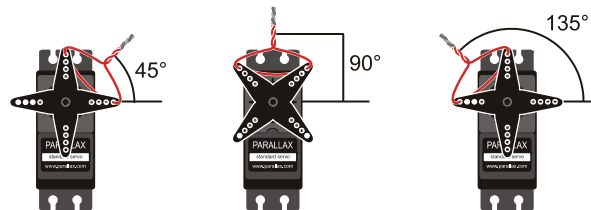

Figure 4-22
The *ThreeServoPositions.bs2* example program makes the servo hold the three different positions shown in Figure 4-22, each for about 3 seconds.
- ✓ Verify that the servo holds each position in the Figure 4-22 sequence for about three seconds.